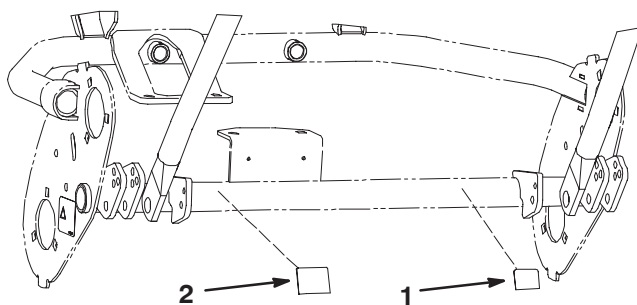

Figure 6
2. For CE conformity, affix the CE mark decal and noise rating decal onto rear of frame, as shown in figure 6.